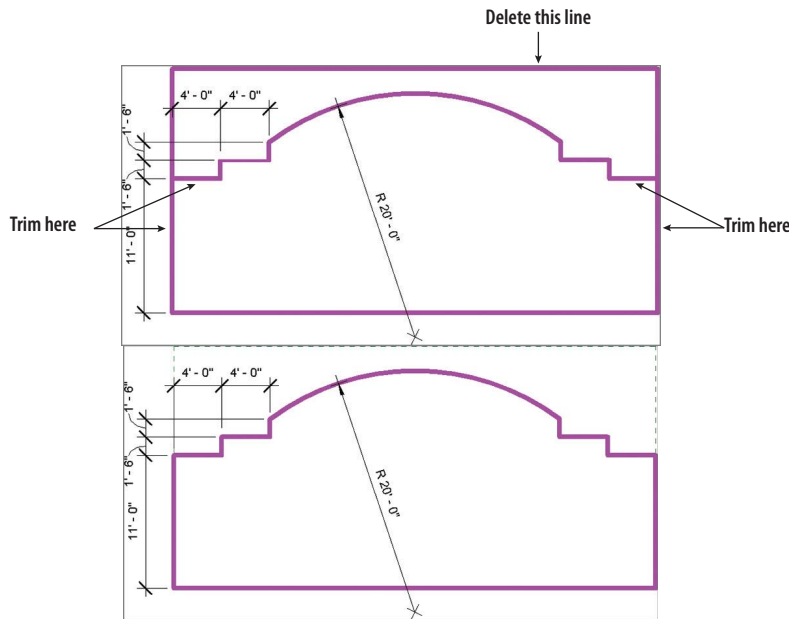

FIGURE 2.14 Adding new sketch lines
2. From the South Elevation view, create the sketch, as shown in the top illustration in Figure 2.14. (Don't worry about following the exact dimensions in this illustration — we're just showing them for
reference.) Delete the top line, and trim the two side sketch lines. Note that the reference lines indicating the extents of the original wall remain, as shown in the bottom illustration in Figure 2.14.